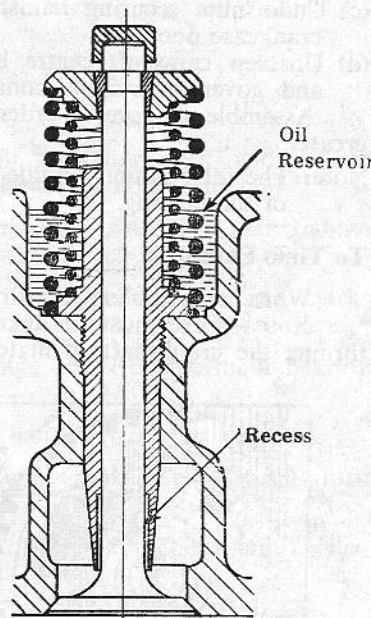

Fig. 7. Exhaust Valve Guide
- (a) Recess in bore of exhaust valve guide (see Fig. 7).